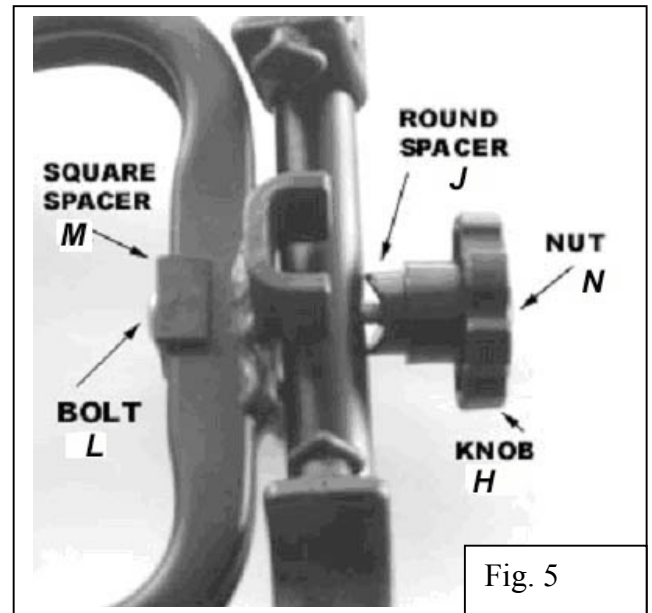

Fig. 5
3. To install the support arms: Locate parts bag with knob assembly (includes knob, carriage bolt, square spacer, round spacer and nut). Insert the bolt **L** through the square spacer **M**, then through the bike rack frame and support arm. Then install the round spacer **J** and knob **H**. Tighten knob, then install the nut **N** on the very end of the bolt so that the nut's nylon lock catches the bolt end. Repeat for other side. See Fig. 5